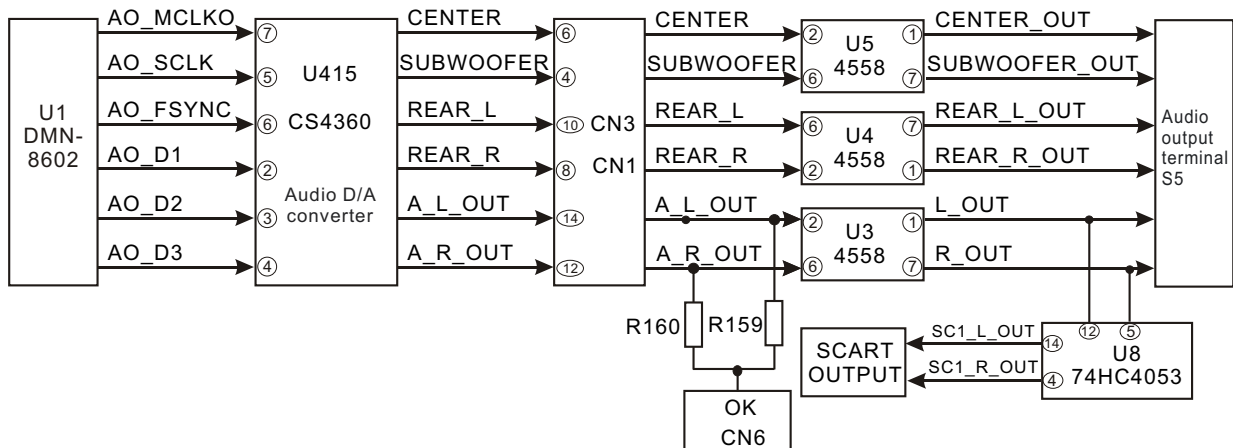

Figure 3.2.2.1 Audio signal output flow chart
1. Audio signal output flow chart is shown in the following figure 3.2.2.1: